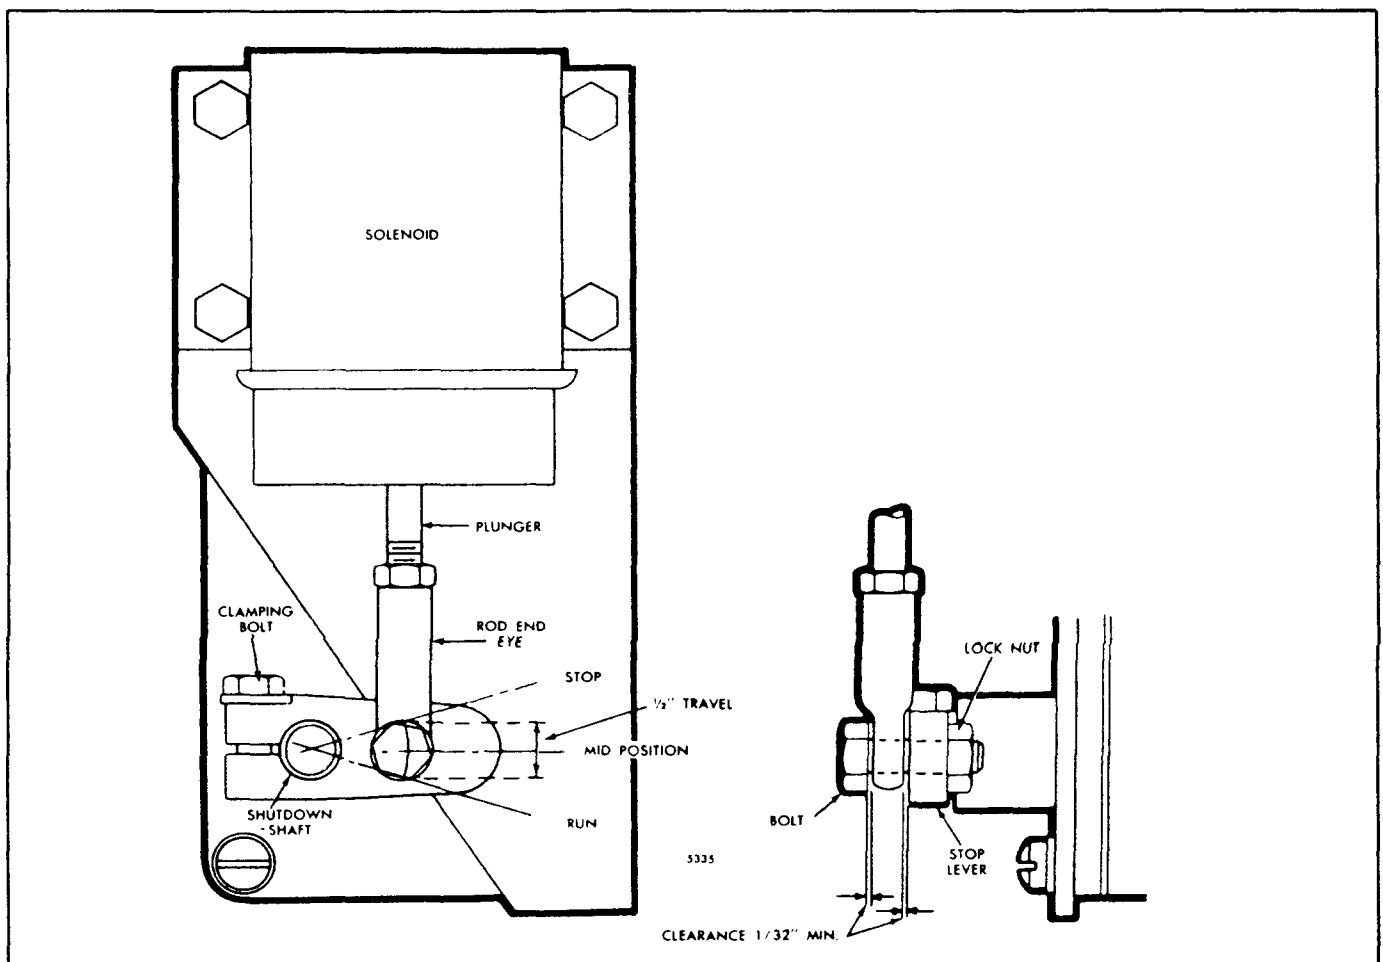

Fig. 7 - Typical Variable Speed Governor Lever Position
1. Remove the bolt connecting the rod end eye (variable speed governor) or the right angle clip (limiting speed governor) to the stop lever (Figs. 7 and 8). Align and clamp the lever to the shutdown shaft in such a way that, at its mid-travel position, it is perpendicular to the solenoid plunger. This assures that the linkage will travel as straight as possible. The solenoid plunger has available 1/2" travel which is more than adequate to move the injector control racks from the full-fuel to the complete no-fuel position and shutdown will occur prior to attaining complete travel.